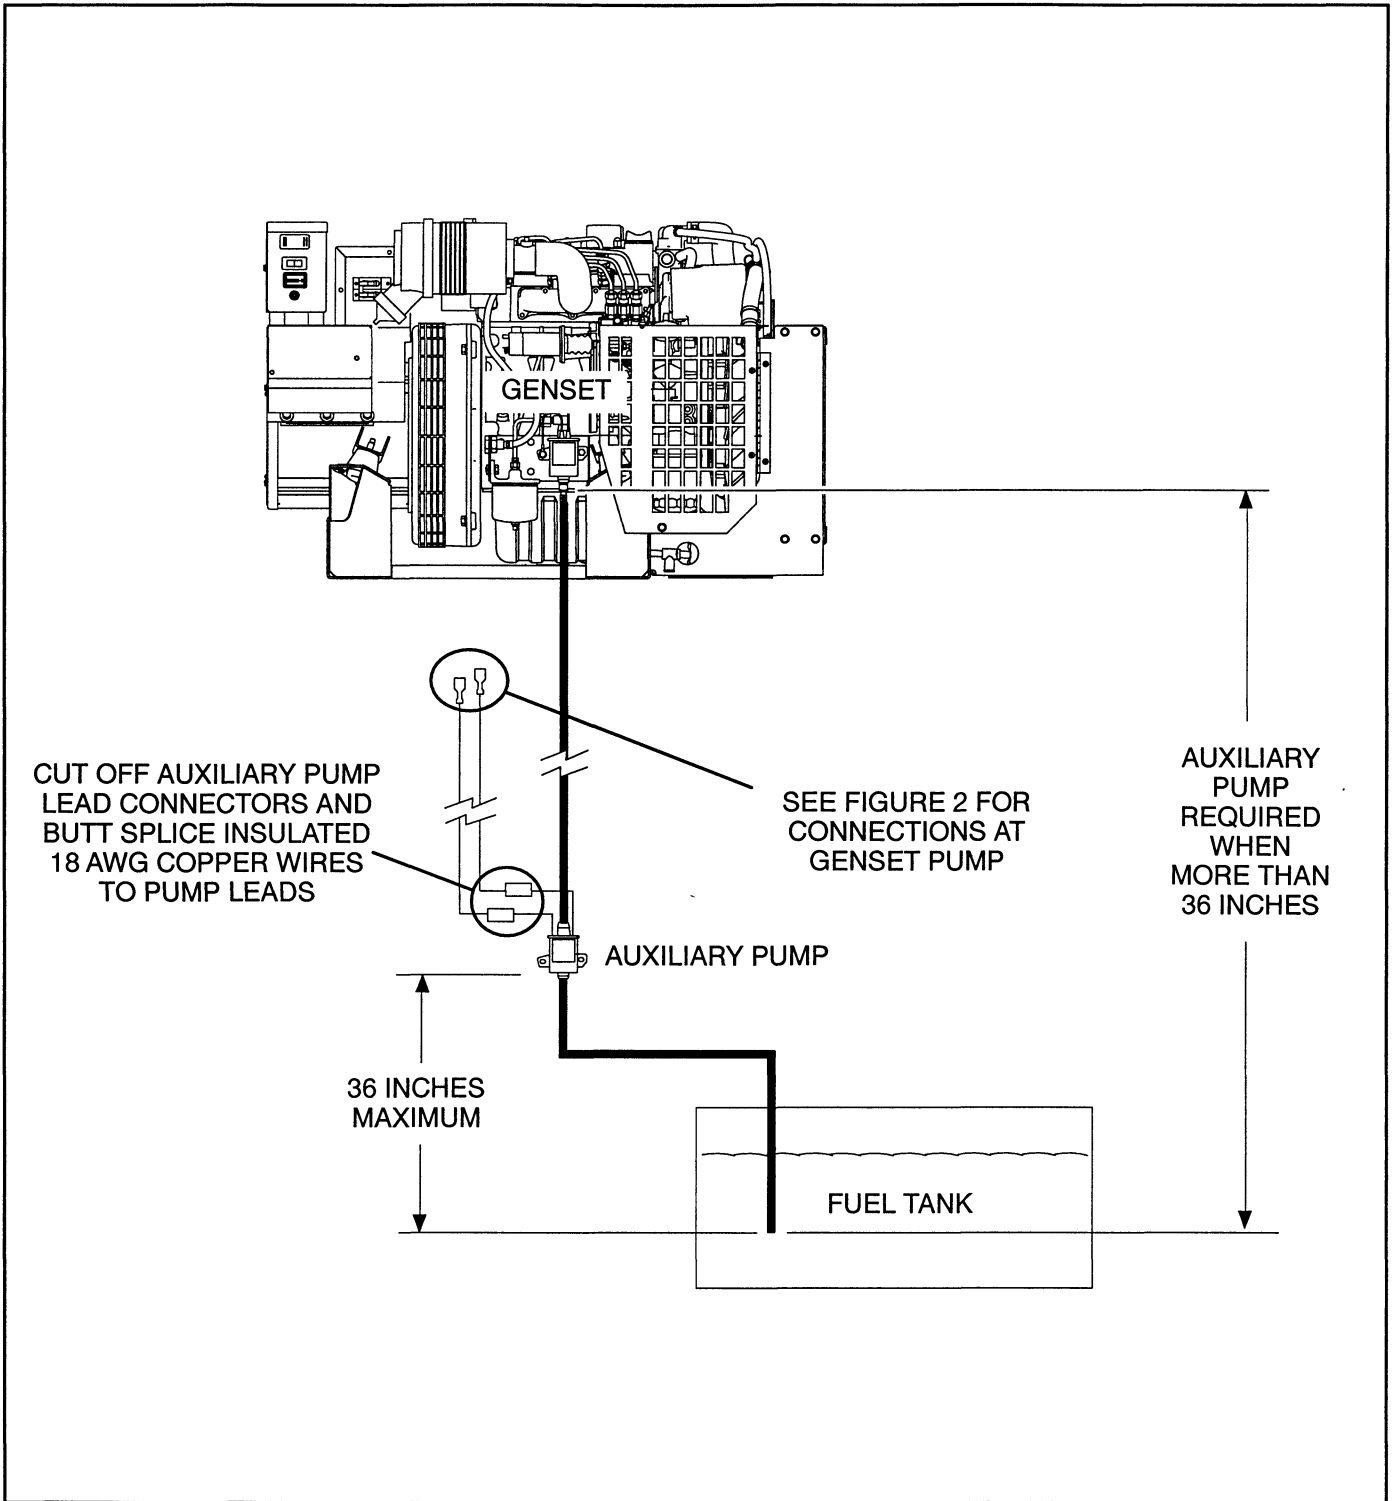

FIGURE 1. AUXILIARY PUMP INSTALLATION
The following instructions cover the installation of an auxiliary fuel pump when the genset fuel pump inlet is more than 3 feet (914 mm) above the bottom of the dip tube in the fuel tank (Figure 1). The auxiliary pump has a shutoff feature that prevents drain back when it is not running. Installation of an auxiliary fuel shutoff solenoid is therefore not necessary with this pump.
1. Securely mount the auxiliary fuel pump as close to the fuel tank as practicable and not more than 3 feet (914 mm) above the bottom of the dip tube in the fuel tank (Figure 1).
long enough to reach the genset with approximately 1 foot (305 mm) of slack left over (Figure 1). Route the pump leads away from and at least 3 inches (76 mm) above the fuel lines and support them to prevent chaffing or contact with sharp edges.
6. Connect the fuel lines such that the two pumps flow in series (Figure 1). Note the end of the auxiliary pump marked “OUT.” Support the fuel lines to restrain movement and prevent chaffing or contact with sharp edges and hot exhaust parts. Run fuel lines at or above the top of the fuel tank to reduce siphoning if a line breaks or a hose comes off. *Read the genset Installation Manual for important fuel system considerations and safety precautions.*